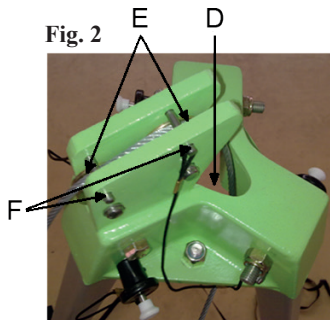

Fig. 2
4. Place the rope through the center hole of the tripod head D. (Fig. 2)